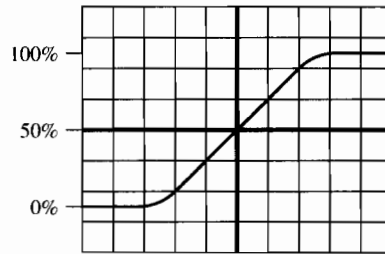

Figure 17-2
4. An oscilloscope presentation has the SEC/DIV control set to 2.0 ms/DIV and the $\times 10$ magnifier is OFF. Determine the rise time of the pulse shown in Figure 17-2.